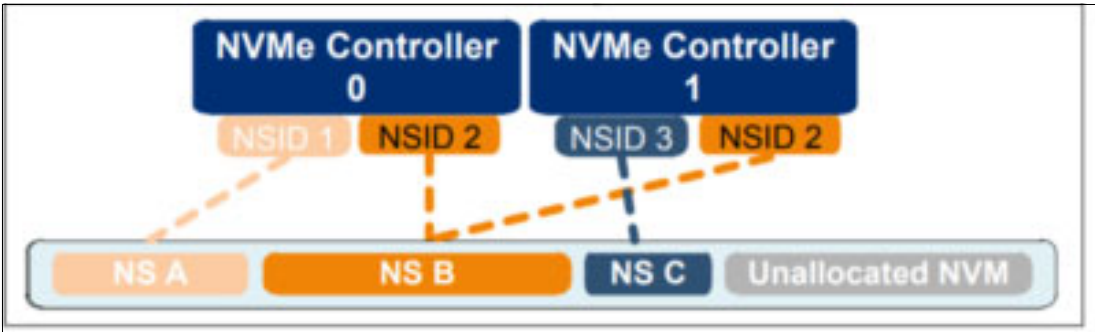

Figure 3-16 Shared and private namespaces
Figure 3-16 illustrates a shared namespace (B) that is accessible from both controllers.